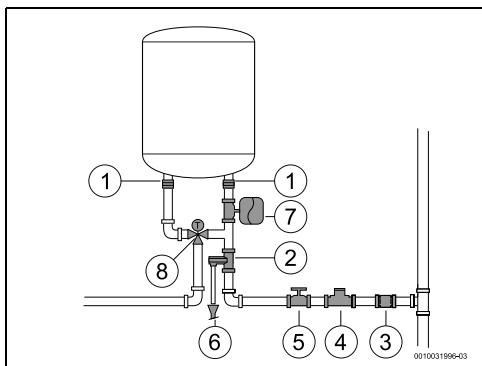

Fig. 11
- ▶ Close the water shut-off valve (\rightarrow Fig. 11, [5]).
- to install a pressure reducing valve (Fig. 11, [4]). The pressure relief valve will activate whenever the water pressure in the appliance is above 8 bar (± 1 bar), for which reason it is necessary to plan a way of draining off this water.
- install an expansion vessel (Fig. 11, [7]) to stop the pressure relief valve opening so frequently. The volume of the expansion vessel should be equivalent to 5% of the volume of the appliance.